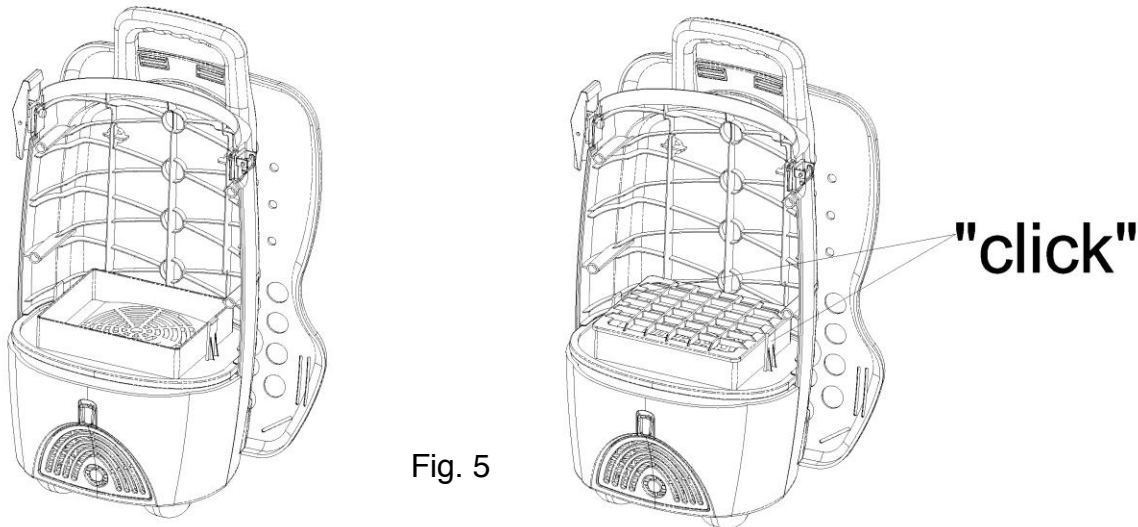

Fig. 5
4. To reinsert, place filter over the tabs and press down. You should hear two "clicks" if installed correctly. (Fig. 5)